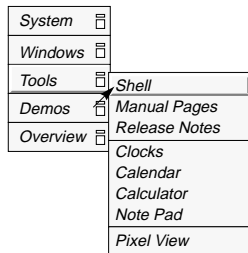

Figure 2-4
1. Open a shell window (Figure 2-4).